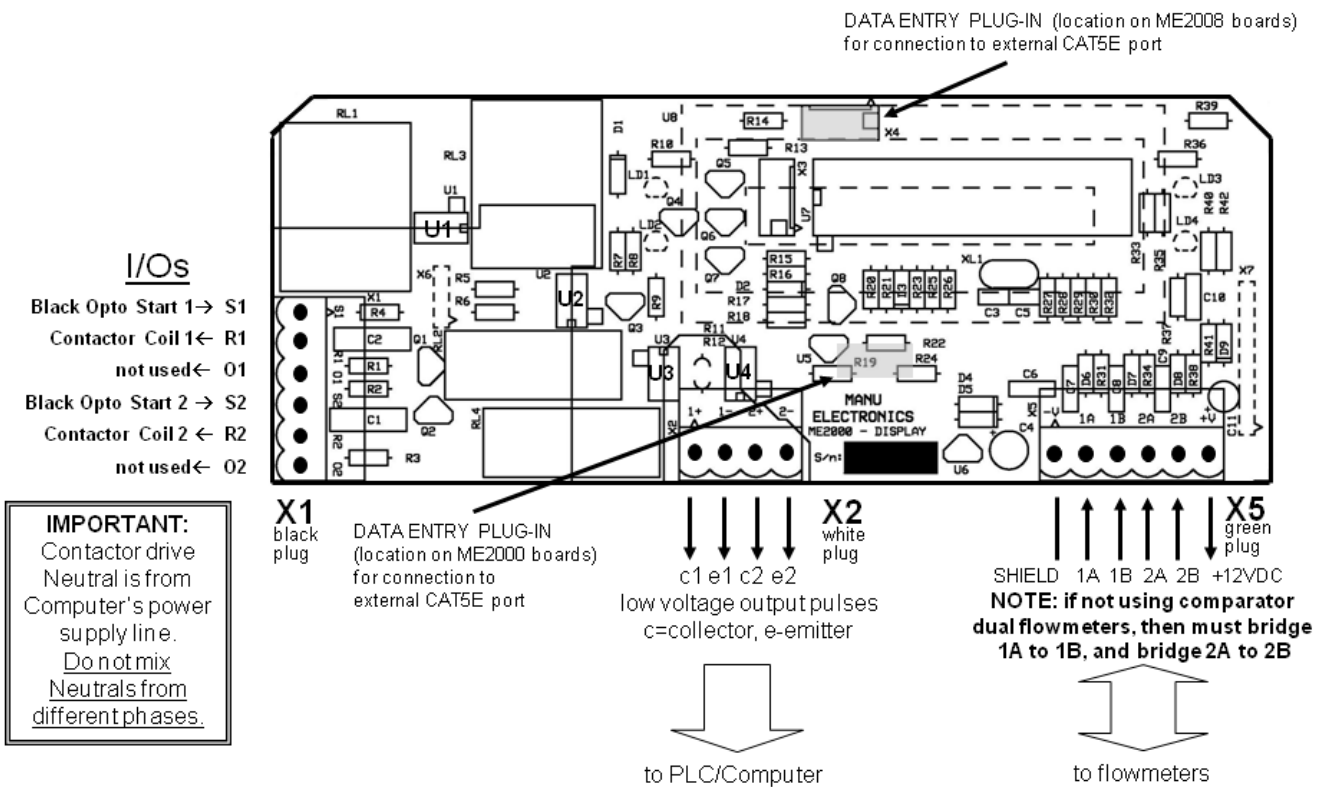

Figure 3. Dual Channel Module (DCM)
- Figure 3. Dual Channel Module (DCM), on page 3.
3. Using shielded cable, connect flowmeters (with no earthing on the bodies of the flowmeters) to the ME2008's Dual Channel Modules (DCMs), to 6-pin green plug X5, as shown in Figure 3 (page 3) and (page 4) . Use minimum 2-core shielded cable per flowmeter to the DCM's X5 plug. If using one flowmeter per channel, use Pulse 1A and Pulse 2A, and +12 VDC and S (Shield) = 0V which are both common for flowmeters.